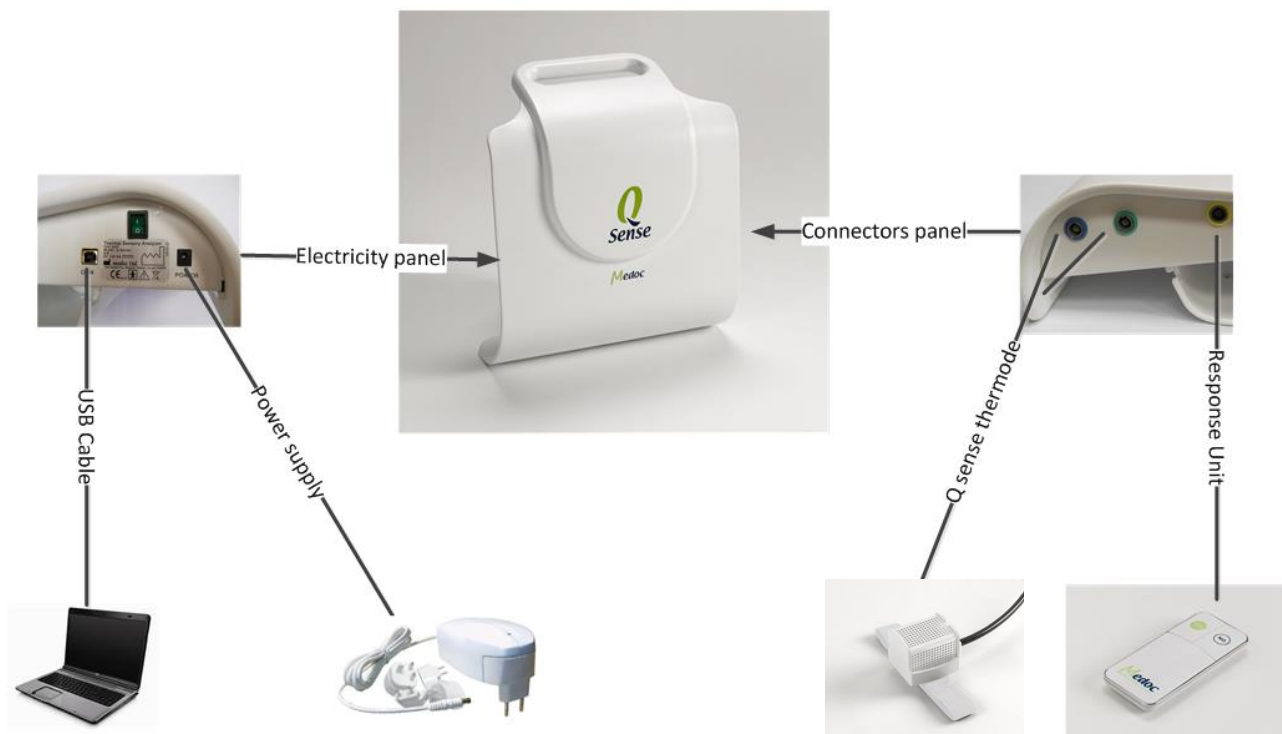

Figure 9: Q-SENSE System Wiring Schema
3. Connect the system, Thermodes and accessories. See Figure 9